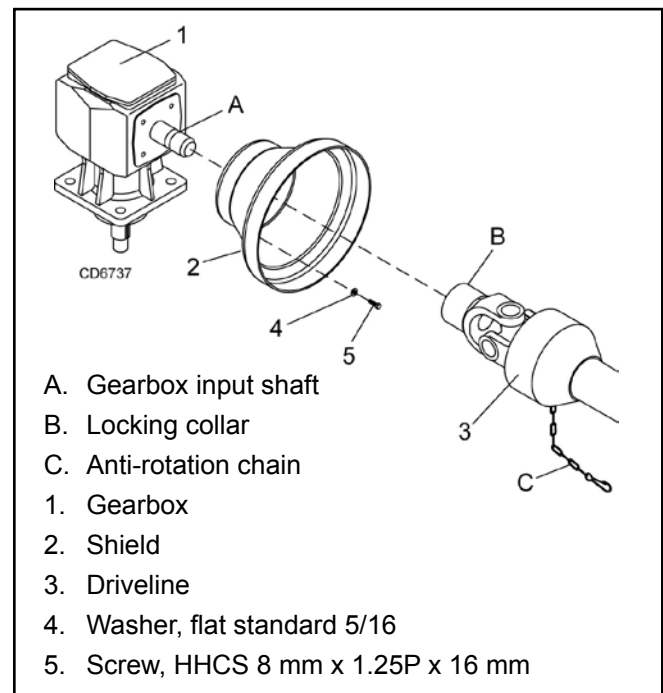

Figure 38. Driveshaft Installation
1. Remove cap screws (31), sleeve (21), lock nuts (35), and hitch arms (14 & 15) from the lower hitch arm attachment point.
2. Position arms for Category 1 or 2 tractor. Category 1 hitch arms have the formed lug facing inward while Category 2 hitch arms have the formed lug facing outward. The notch in the rear of the hitch arm should face up. If the hitch arms do not have the correct orientation, then switch them and use Figure 38 as a guide for correct orientation and position. Reinstall cap screws (31), sleeve (21), hitch arms (14 & 15), and lock nuts (35).
(Figure 38)